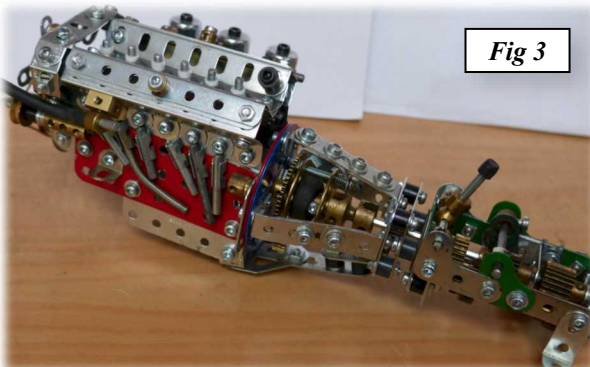

Fig 3
*Fig.3* shows the DB4's engine, clutch and gearbox. The gearbox is only a 2-speed and reverse unit due to keeping the length to scale (as near as possible). The clutch came out of the earlier mini Austin-Healey 3000. The engine is the standard DB 6 cylinder, twin-cam 4 litre with triple SU carbs.